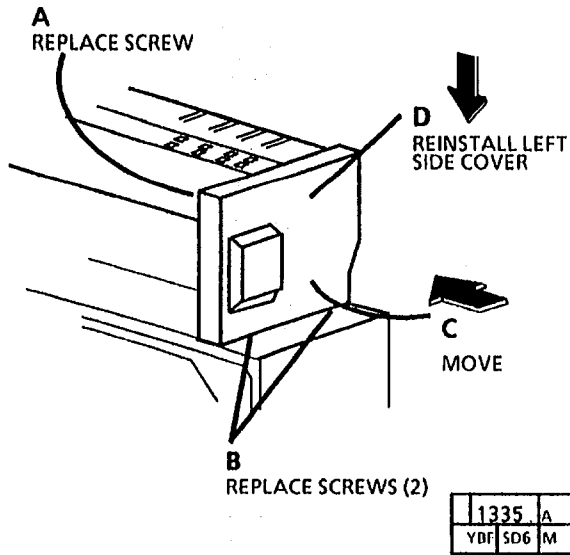
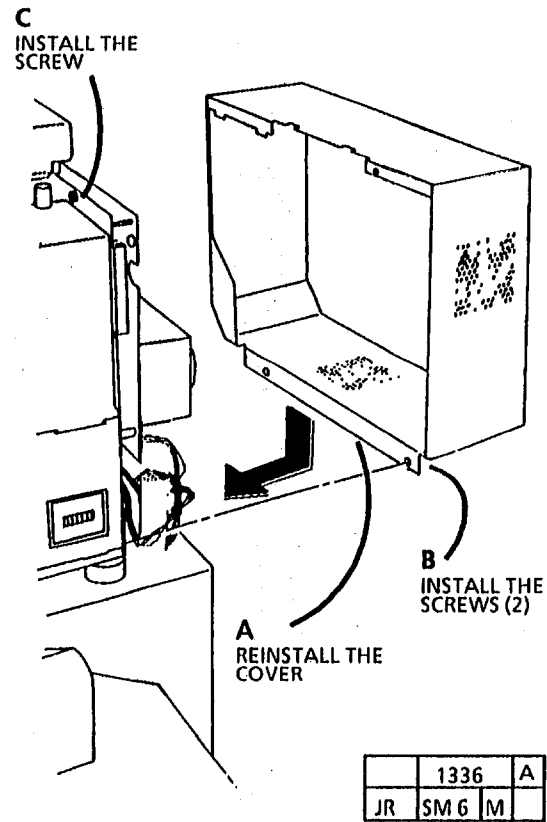

Figure 14. (2510) Reinstalling the Left Side Cover
Figure 15. (2515) Reinstalling the Left Side Cover
19. (2510, Figure 14; 2515, Figure 15):